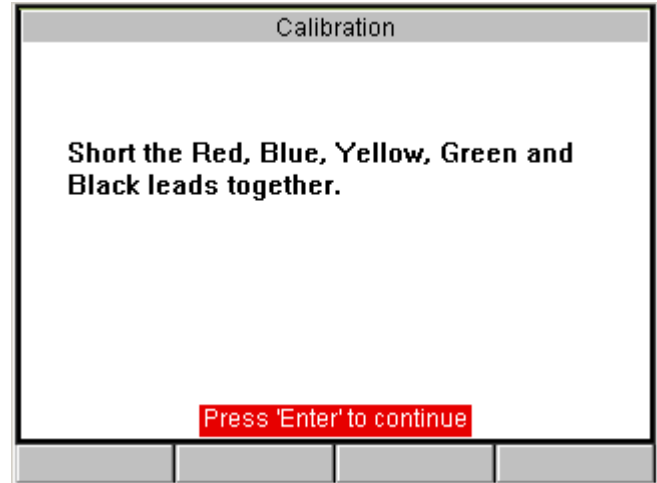

Figure 13.6: Calibration Screen
- 3 Select **Calibration** and press the **ENTER** key. This displays the Calibration screen (Figure 13.6).